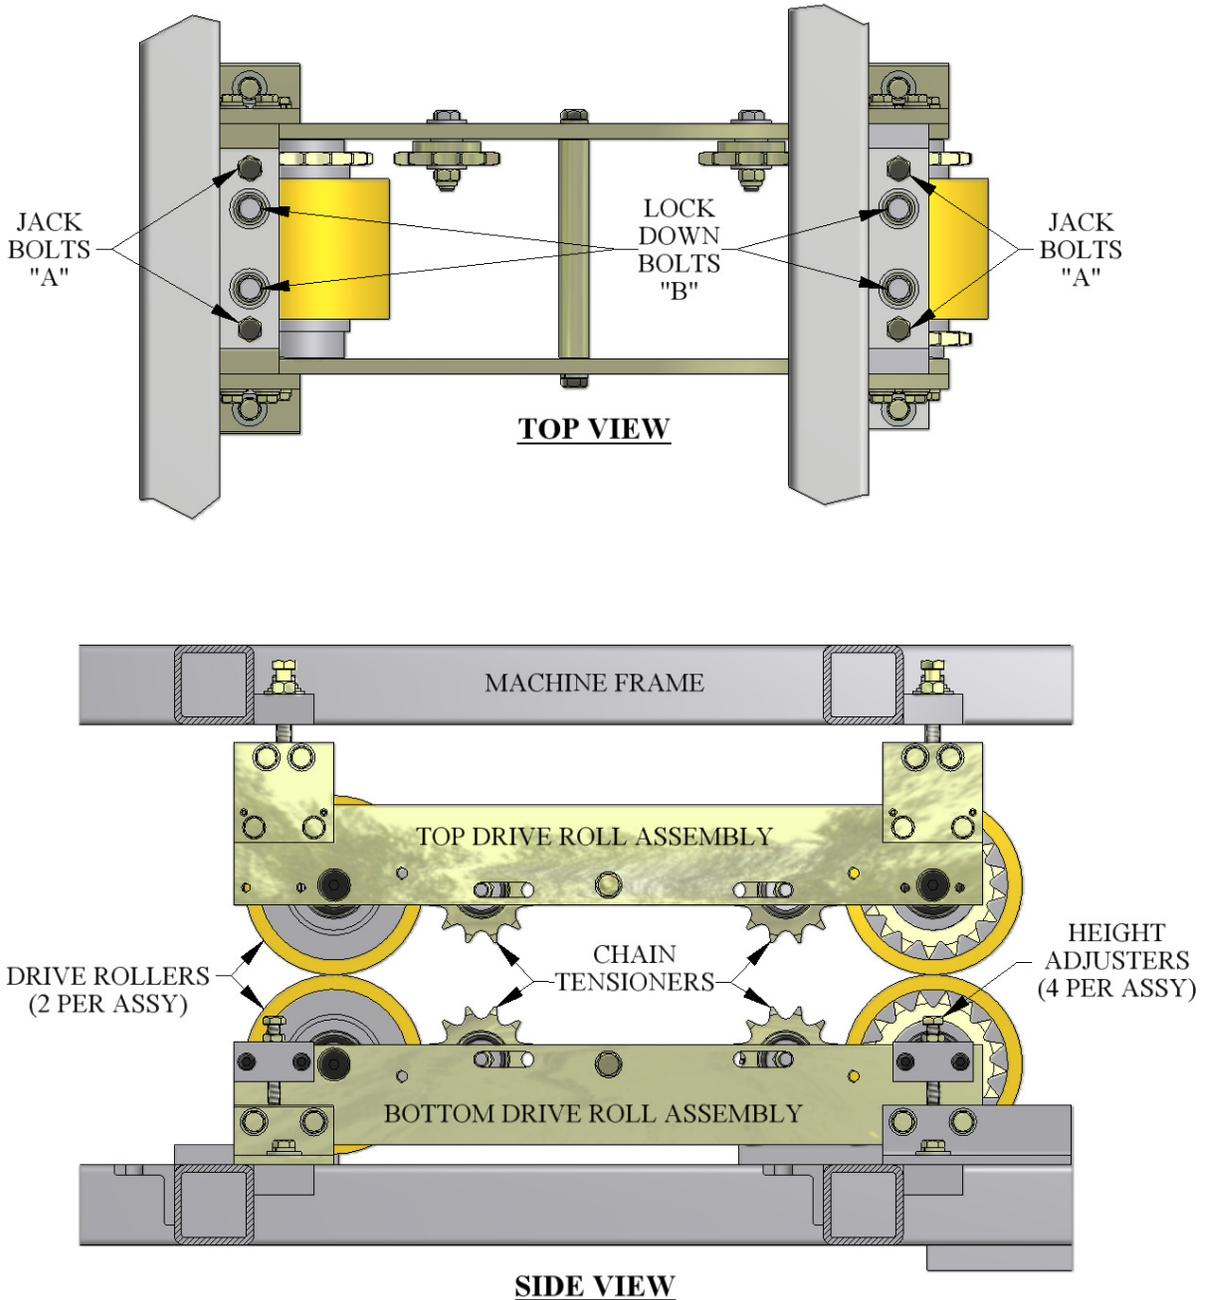
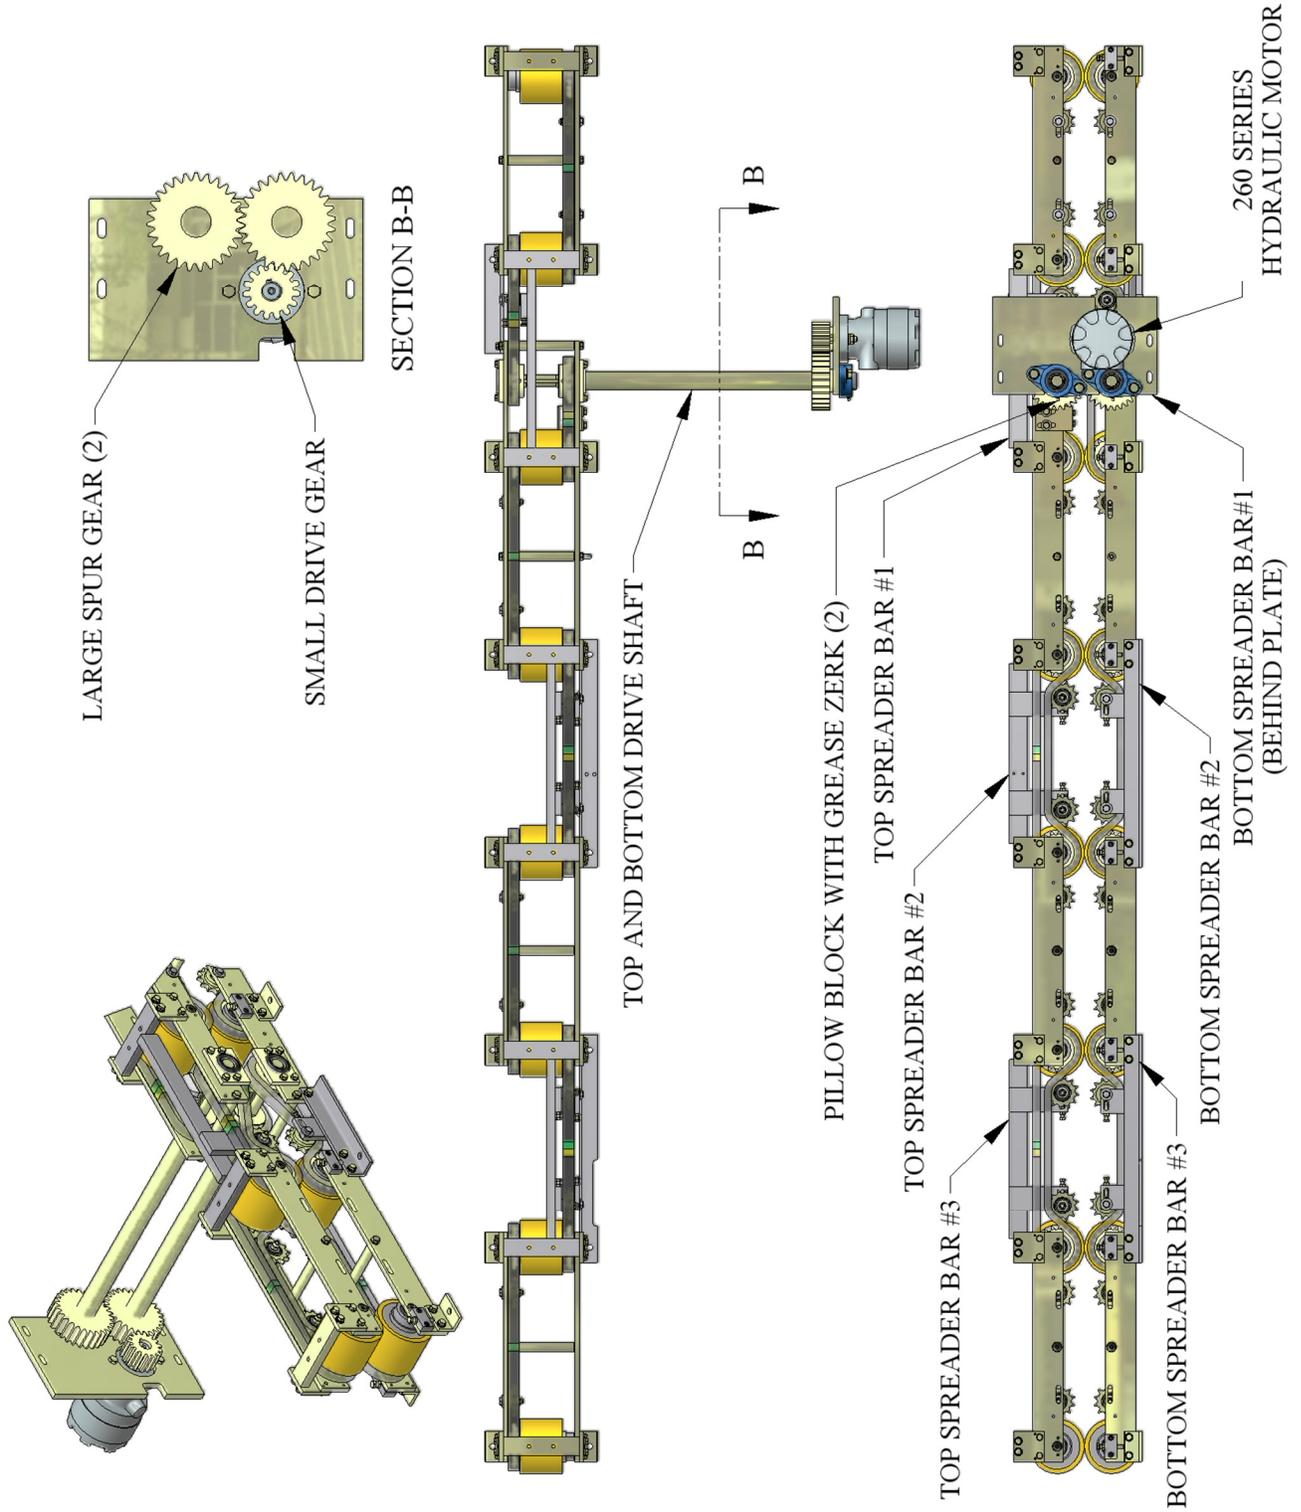
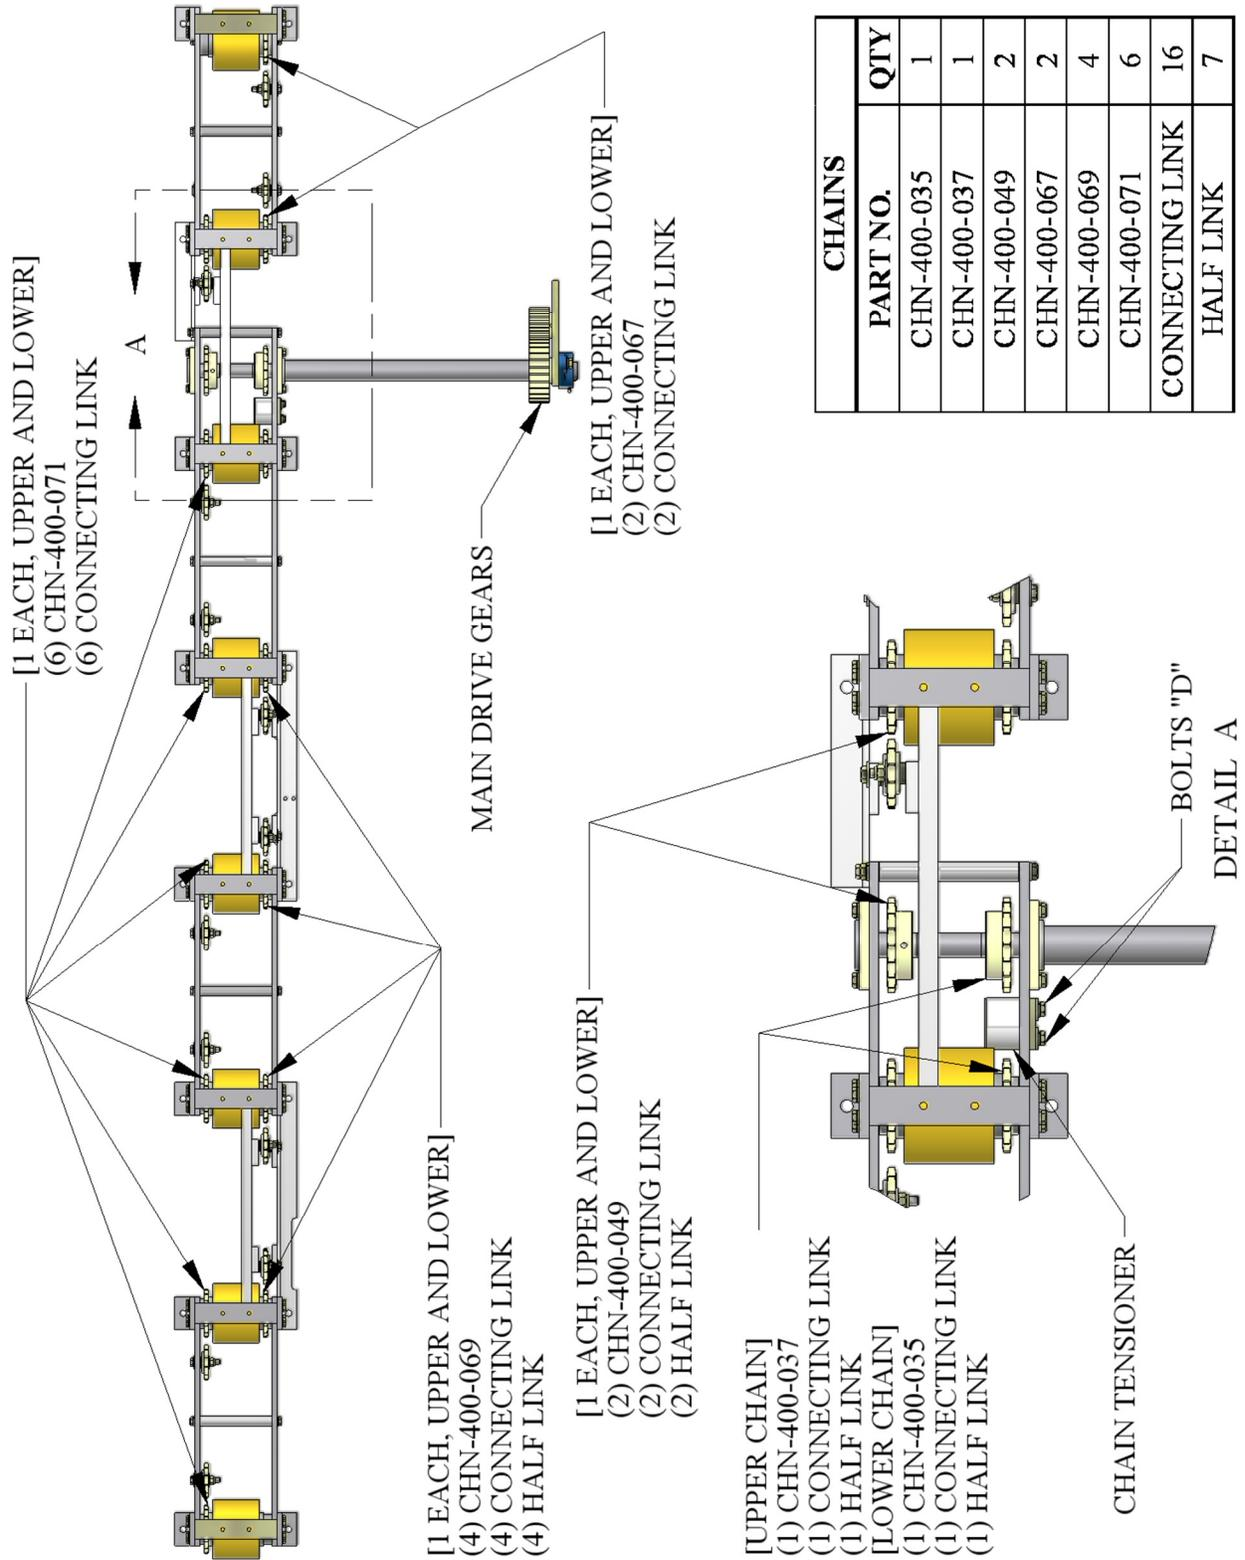

Figure 18: Drive Roll Assembly View
Figure 19: Gears and Shafts
Figure 20: Chains Upper and Lower
(Figure 18, Figure 19 & Figure 20)
- C. The third is located on the Top #1 Spreader Bar between the sprocket and drive roller. (see detail 'A' Figure 20) Loosen two "D" bolts enough to move the tensioner assembly up toward the chain until snug. Re-tighten the two "D" bolts.
3. The chains used in this system are #50 Roller Chain. See Figure 20 for chain locations and lengths if chain replacement is necessary.